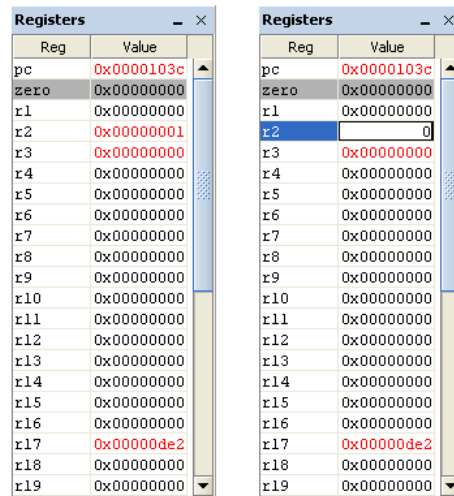

Figure 33. Register values after the breakpoint trigger; editing the value of the *r2* register.
4. The **Registers** window should look similar to the left image of Figure 33. To edit the value of the `r2` register, which controls the scroll direction, double click on its value in the window. This will bring up a text box, as shown in the right image of Figure 33, and you can put in its new value of 0.